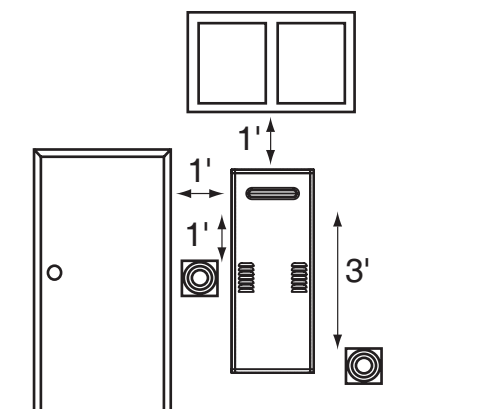

Figure 1: Termination clearances.
- The recess box should be installed so the discharge vent maintains the following clearances from building openings as shown in Figure 1: